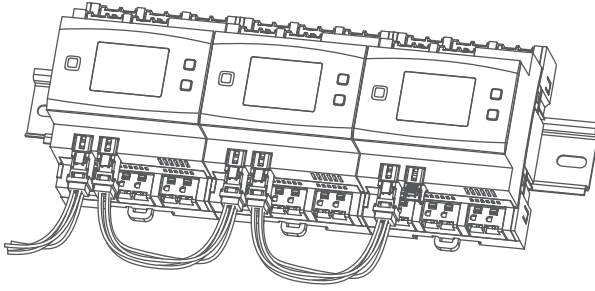

Figure 8
- Press and hold the system button for 4 seconds *Fig. 8*